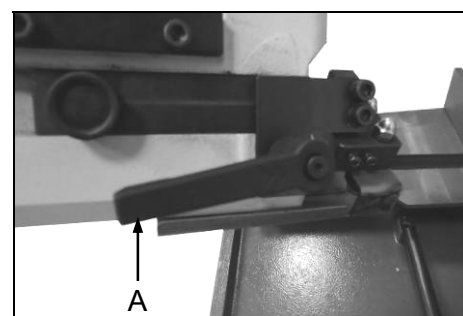

Fig. 14
For the blade guide adjustment the band saw features an adjustment lever (A) (Fig.14) mounted on the unit.